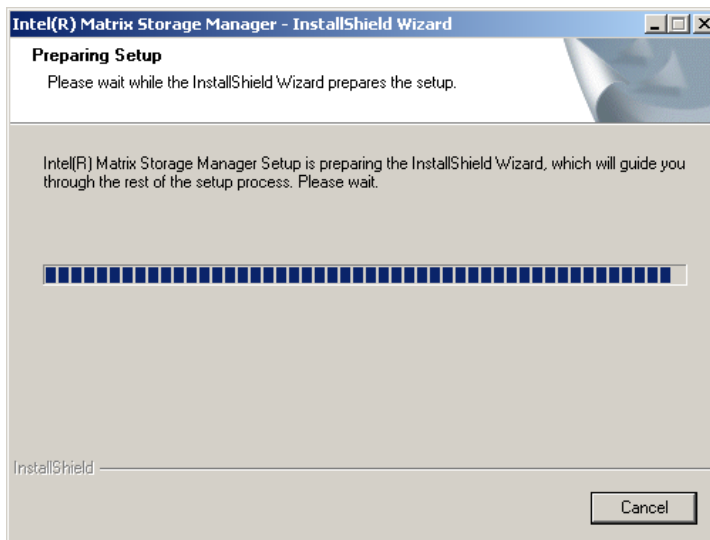

Figure 7-26: InstallShield Wizard Setup Screen
Step 5: Figure 7-26 shows the InstallShield Wizard preparing to guide the user through the rest of the process.